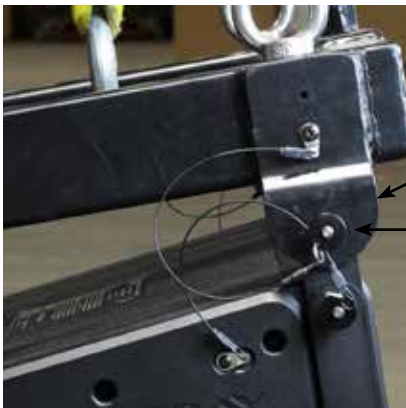

Figure 2
2. Either lower the Versarray™ Mk III Halo to meet the cabinet, or raise the cabinet up to meet the Halo, with the cabinet straps guided into mating with the Halo ears on both sides at the same time. Pin the front straps in place using the pins from the Halo. See Fig. 2